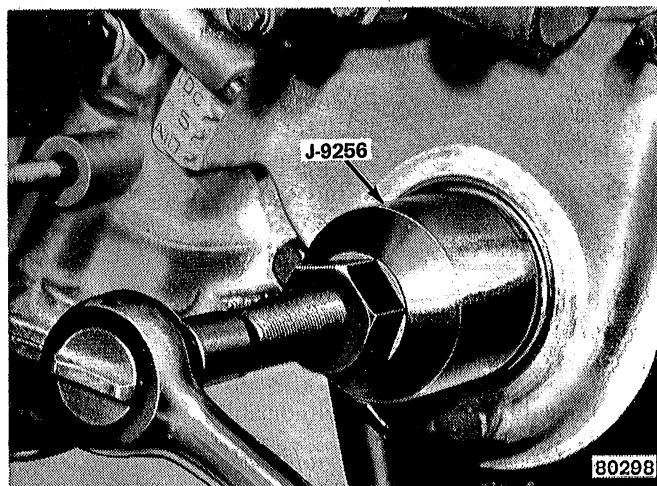

Fig. 1B-118 Removing Timing Case Cover Oil Seal
(1) Loosen all drive belts.
(2) Remove vibration damper pulley.
(3) Remove vibration damper screw and washer.
(4) Install damper screw in crankshaft to prevent damper puller from damaging screw threads in crankshaft.
(5) Remove vibration damper with Tool J-21791. Remove damper screw.
(6) Remove oil seal using Remover J-9256 (fig. 1B-118).